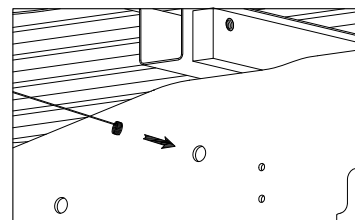
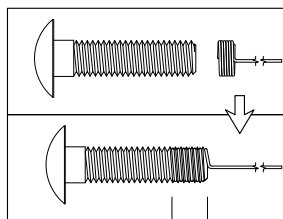
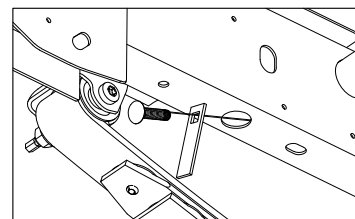

Figure C2: View from outside of Driver Side Frame.
Figure C3: fish wire diagram.
Figure C4: View looking up at rear of driver side frame
- 2. Fish carriage bolts through frame.** A fish wire will be required to install the 1/2" X 2" Carriage bolts which hold each sideplate in place. Start by locating the mounting hole in the side of the frame, shown below in Figure C2. Feed the coiled end of the fish wire through the hole until it is visible in the 1-1/2" hole near the back of the frame as shown in Figure C4. Attach a locking strap and the 1/2" X 2" carriage bolt to the fish wire as shown in Figures C3 & C4. The locking strap should not be inserted into the bolt while passing through the frame. Once attached, carefully pull the fish wire back through the frame. Pull the carriage bolt out of the hole in the frame, ensure that the carriage bolt has been pulled all the way through the locking strap and the bolts rotation is restricted.